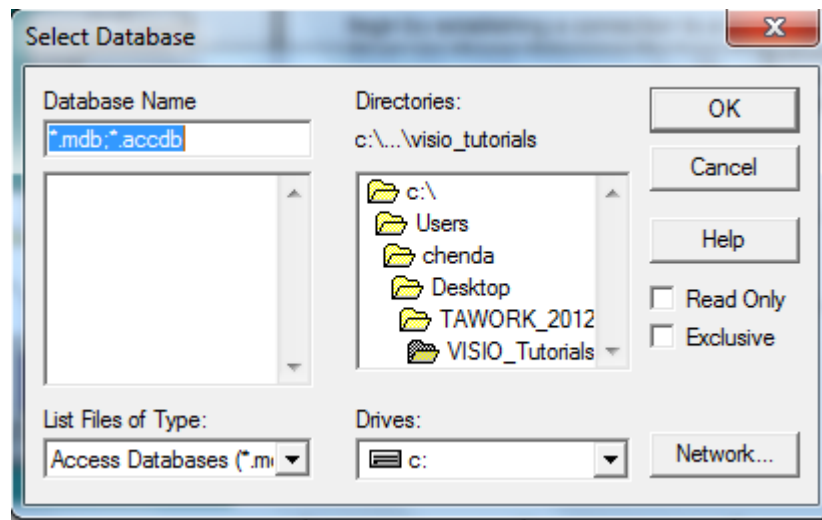

Figure 64: Select Database Window
3. Locate the Database: After clicking the **OK** button, you can locate the database in the Select Database window (Figure 64). Navigate in this window until you find the location of the auto repair database that you downloaded before beginning these instructions.